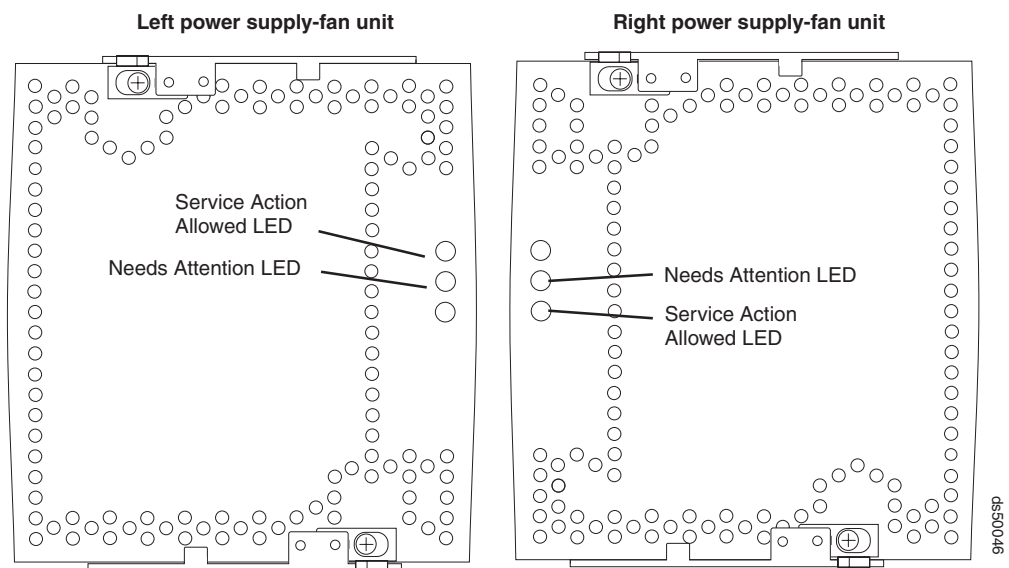

Figure 98. Power supply and fan unit Needs Attention LEDs
5. Check the Needs Attention LED on each power supply and fan unit. (Figure 98 shows the left power supply and fan unit Service Action Allowed LED is the top, or first, LED, and the Needs Attention LED is the second LED. On the right power supply and fan unit the Service Action Allowed LED is the bottom LED, and the Needs Attention LED is the next LED above it.)